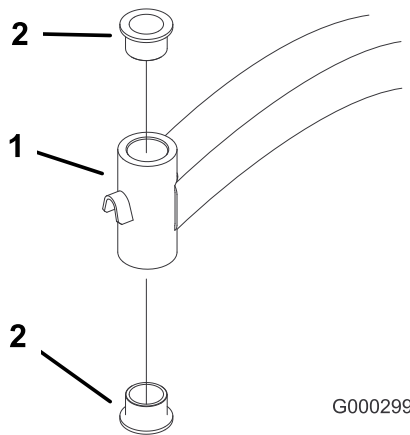

Figure 36
5. Insert a pin punch into the mounting tube and carefully drive out the bushings (Figure 36). Clean the inside of the mounting tube.